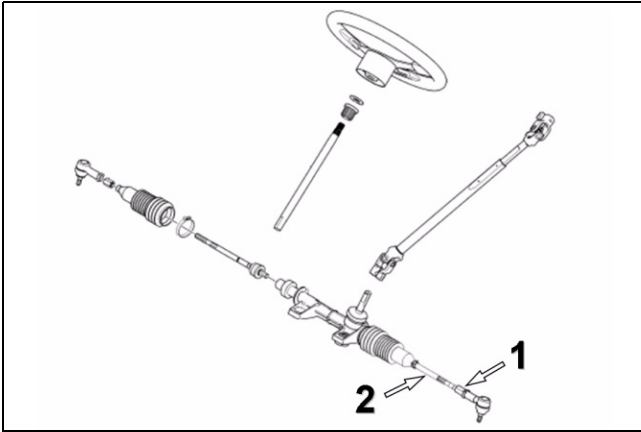

Figure 15 (Steering Mechanism)
To adjust the UTV, first unscrew the nut (1) of the coupling rod of the vehicle's direction system (2), screw or unscrew the coupling rod of an equal number of revolutions on the both sides of the vehicle. See figure 15.